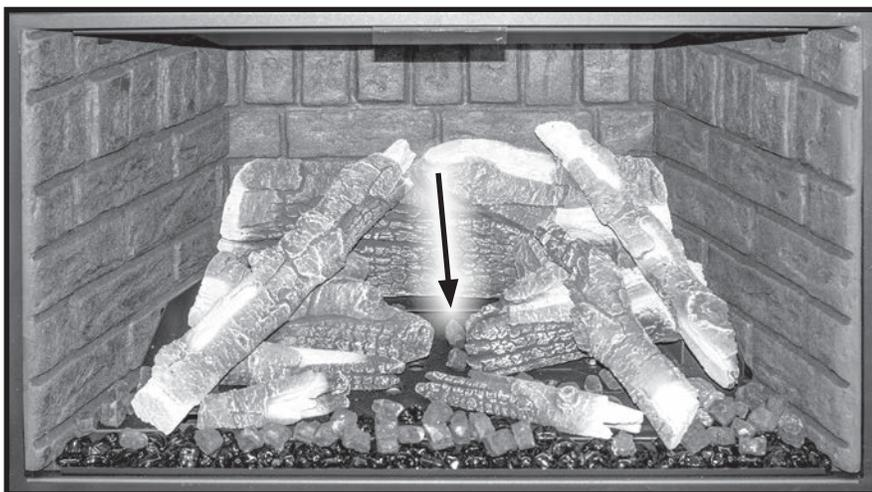

**Figure 50. Final Ember Log & First Right Top Log.**
5. Install the final ember log, as shown in Figure 50, by locating the drilled holes on the burner pins. Then install the first right top log by sitting the depression on the bottom side onto the half-round on top of the back log. The opposite end of the log sits into the notch on top of the right ember log.